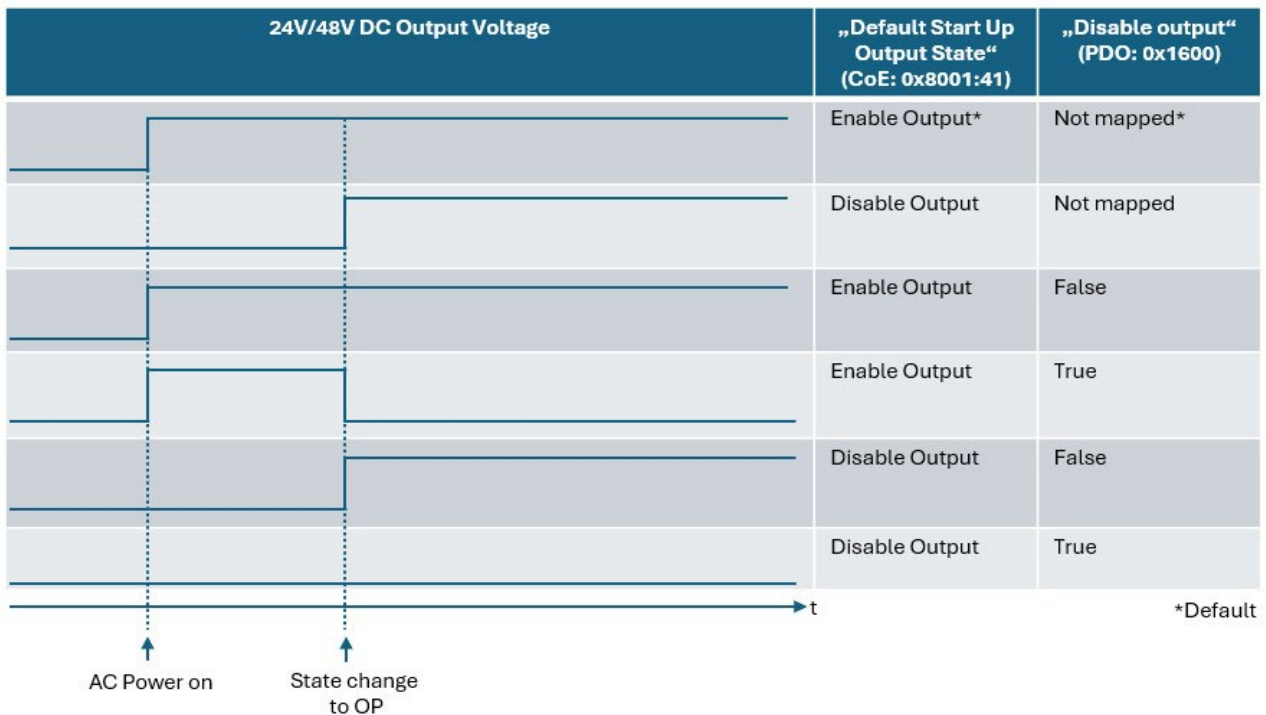

Fig. 2-1: Start-up behaviour dependent on CoE 0x8001:41 and 0x1600
- Behaviour at start (see fig. 2-1 "AC Power on")
- Behaviour after reaching the OP state (see Fig. 2-1 "Stage change to OP").